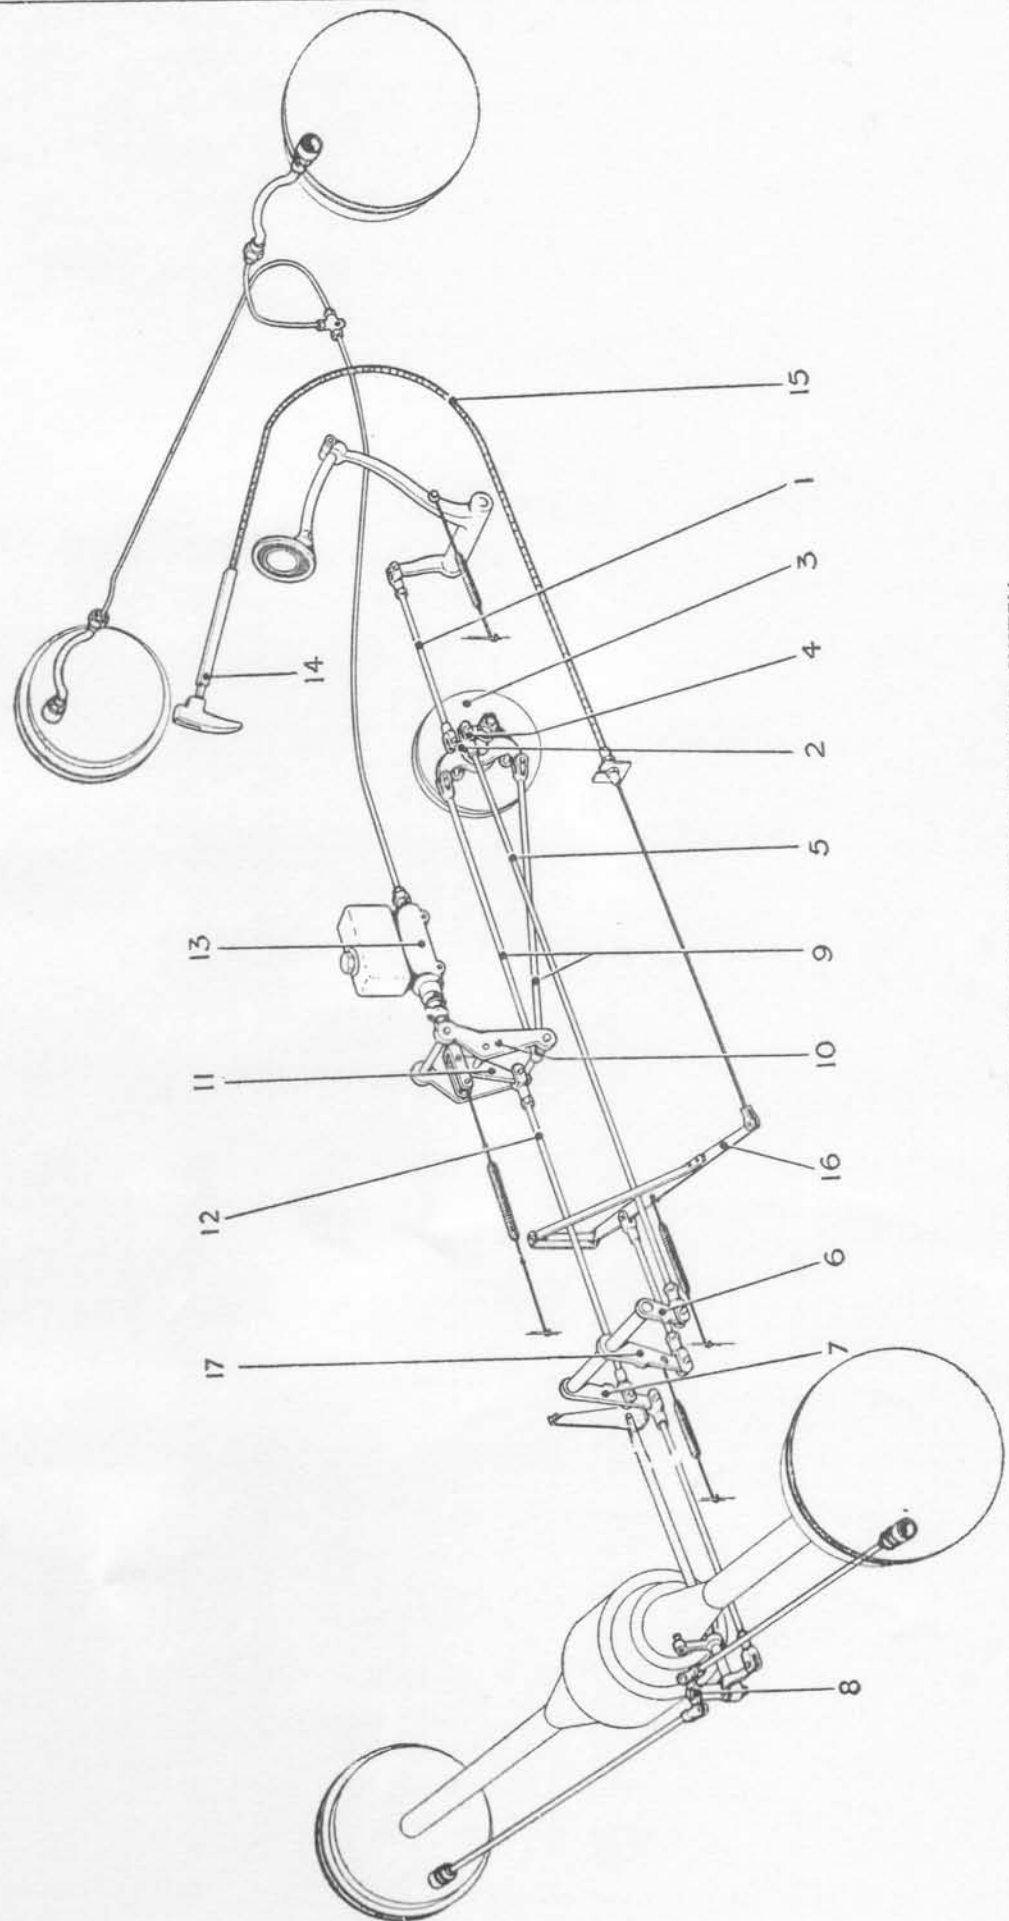

Fig. 17.—DIAGRAM OF BENTLEY BRAKING SYSTEM.
A diagrammatic representation of the whole system is shown in Fig. 17.
A pull rod (1, Fig. 17), operated by the pedal, is coupled to a lever (2), on the servo motor shaft, the motor itself (3) being mounted on the off-side of the gearbox, and driven at approximately one-tenth of the propeller shaft speed.
The servo is of the dry disc-brake type, and is shown in Fig. 17. An adjustment is provided for the initial setting and wear of the friction surfaces, but once correctly set, should require no further attention for a considerable period, as very little wear occurs. As the operation is of a delicate nature it is advised that this adjustment should be effected by Messrs. Bentley Motors (1931) Ltd., or one of their "Special Retailers".
The only points that require attention are the jaws and pins of the pull rods and intermediate levers (6, 7 and 17, Fig. 17). Oil should be applied to these points every 5,000 miles, as directed on page 31. The ball bearing cams which actuate the servo (as described earlier in this chapter) are filled with lubricant upon initial build, and require no attention between overhauls of the chassis.